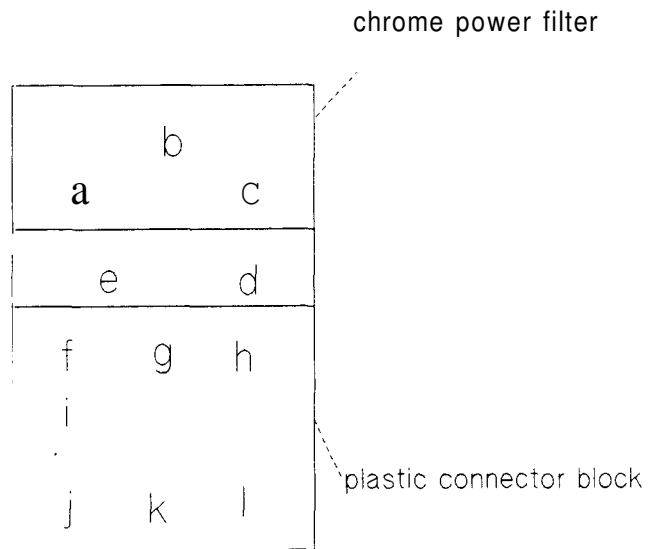

Figure 5-24. Line input filter and transformer connections.
3. Figure 5-24 shows the face of the line input filter, which is only directly accessible after disconnection has taken place. After separating the fan housing from the transformer housing look at the line input filter from the left side, when looking from the rear of the instrument. locate the white wire from c to d in order to orientate yourself to the position of the other wires.